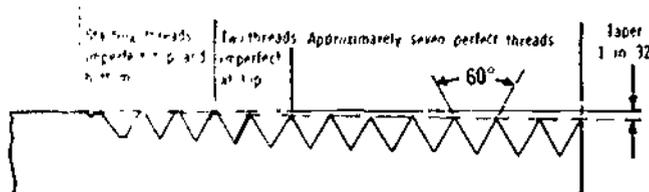

Figure 1-23. National Pipe Thread (NPT)
b) Figure 1-23 shows a typical NPT. Starting Thread, Imperfect Top and Bottom Two Threads, Imperfect at Top Approximately Seven Perfect Threads Taper 1 in 32